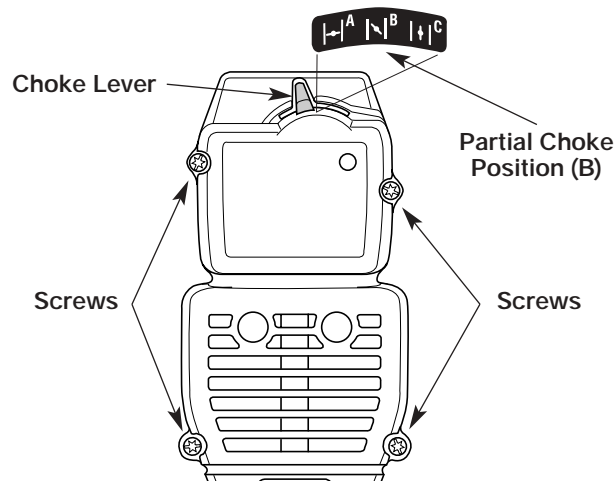

Figure 21
1. Place the choke lever in the **PARTIAL** choke position (B).
NOTE: The choke lever must be in the **PARTIAL** choke position (B) to remove the air filter/ muffler cover. See Figure 21.
2. Remove the four (4) screws securing the air filter/ muffler cover. See Figure 21. Use a flat blade or T20 Torx bit screwdriver.
6. Replace the air filter inside the air filter/muffer cover. See Figure 21.
NOTE: The choke lever must be in the **PARTIAL** choke position (B) to install the air filter/muffer cover. See Figure 21.
2. Insert the four (4) screws into the holes in the air filter/muffer cover and tighten. See Figure 21. **Do not over tighten.**